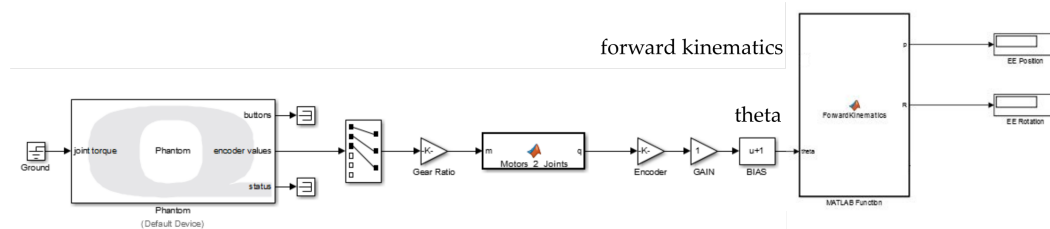

Figure 4: Initial Simulink diagram. Your team developed the forward kinematics in Lab 3.
- You should see a Simulink diagram similar to Figure 4.